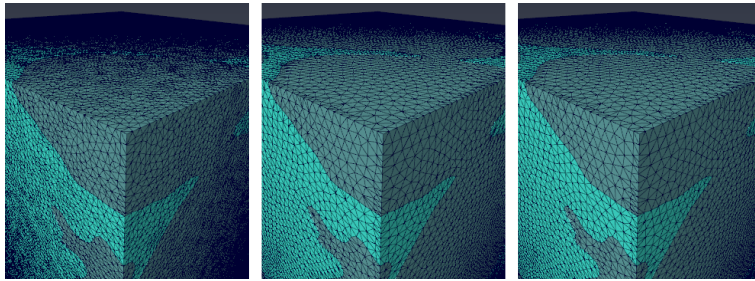

Figure 7.26: From left to right: initial surface, fix contours remeshing, remeshing around contours only.
- Run the remesher (see Figure 7.26).